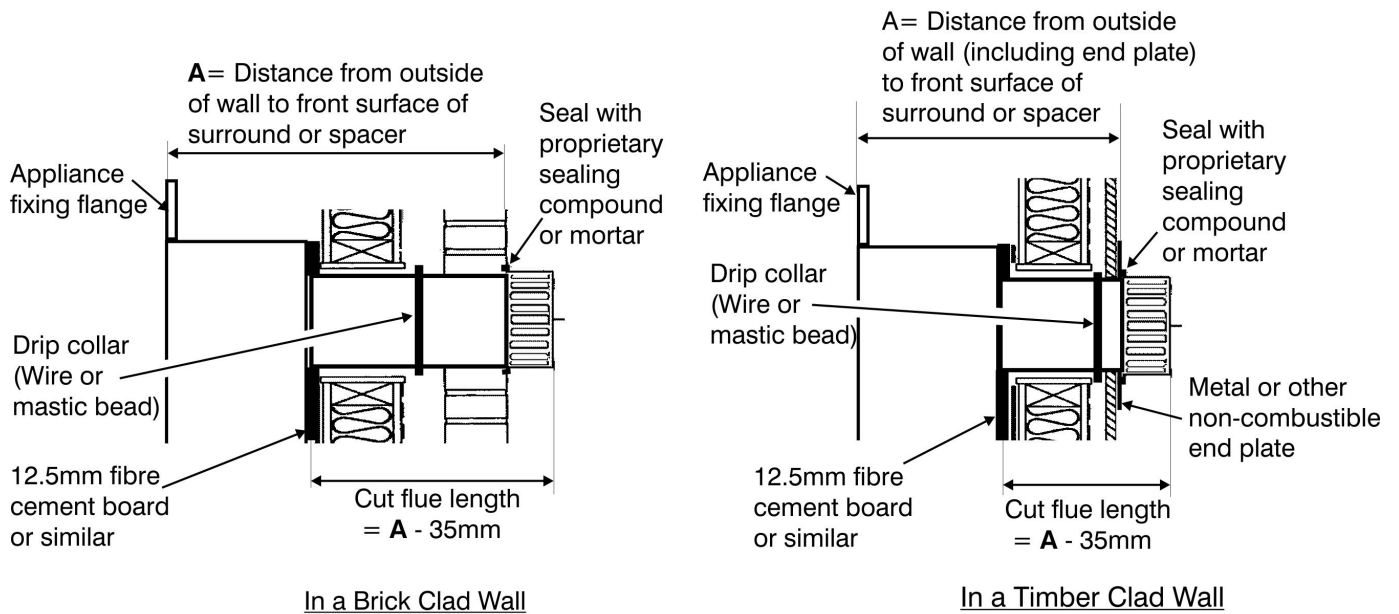

Figure 12b. Flue unit installation - Timber framed building.
- Timber frame building with combustible outer leaf (e.g. shiplap boarding): A metal or other non-combustible end plate must be fitted on the outside of the wall. The plate must be concentric with the flue and at least 254mm (10in) square or diameter (See figure 12b).